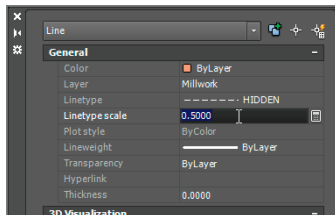

FIGURE 6.22 Adjusting the Linetype Scale property
8. Change Linetype Scale to **0.5** in the General section of the Properties panel (see Figure 6.22).